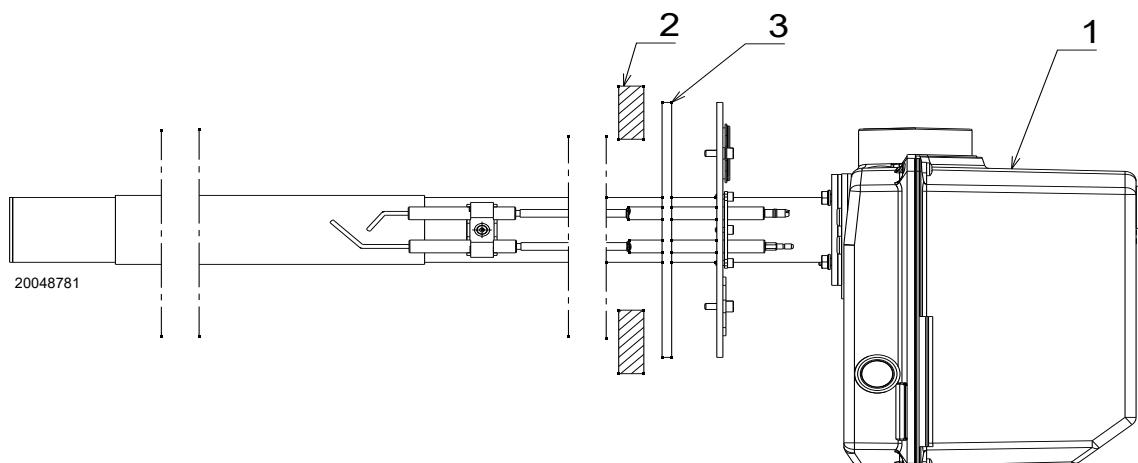

Fig. 8
- Fix the burner 1)(Fig. 8) to the boiler door 2) using the 4 screws and (if necessary) the 4 nuts, interposing the insulating gasket 3).